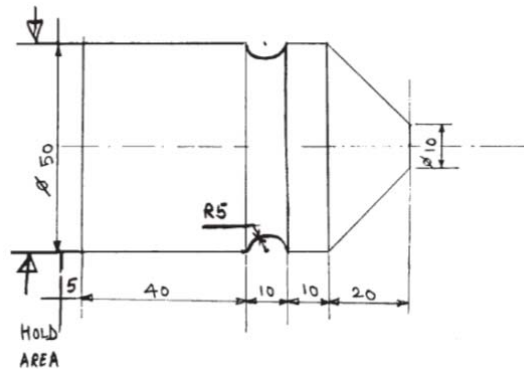

Fig No 1
- a) Write part program for a job as shown in Fig. No. 1. Take only finish cut. Spindle speed is 1200 rpm and feed rate is 150 mm/rev. Assume suitable machining data, if necessary.